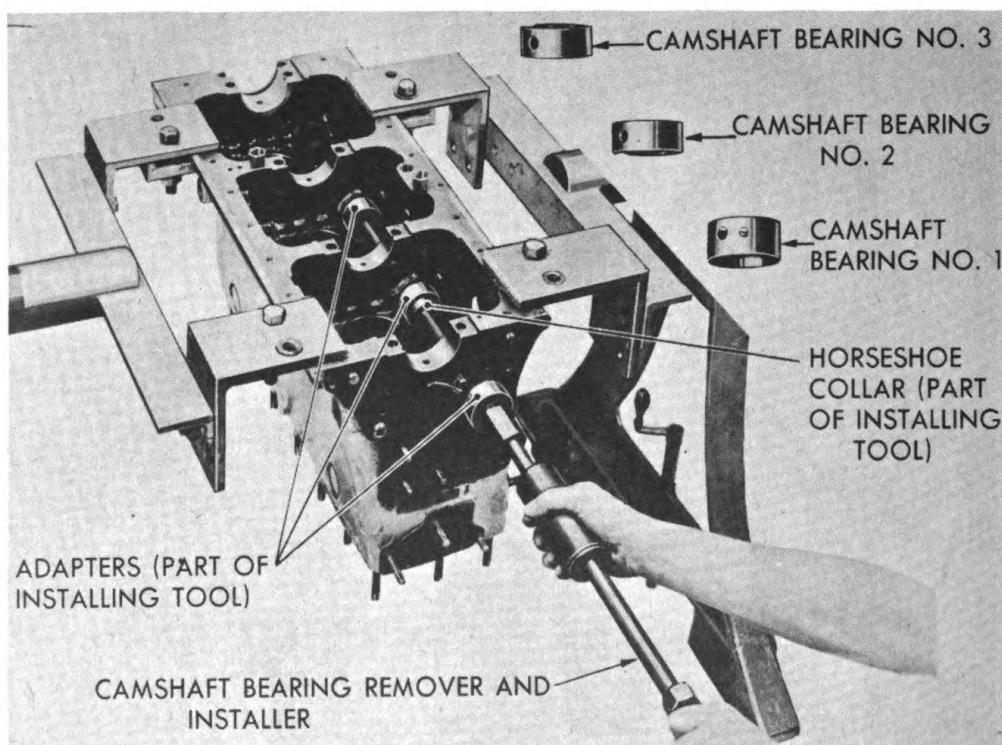

Figure 106—Camshaft Bearing Installation
- b. **Install Camshaft Bearings**—(Figure 106.) The rear ends of the camshaft bearings are chamfered to facilitate installation. An oil hole is machined in each bearing which must line up with an oil hole in the block. The front bearing has a second oil hole which must line up with the hole which supplies oil to the timing chain. Install the correct size adapter of camshaft bearing tool (figure 106), in each of the two intermediate bores. Install the correct adapter in the front bearing and start the front bearing in its bore. Insert the installer shaft through all three adapters and install a horseshoe collar forward of the front adapter. With the sliding hammer of the tool, drive the front bearing into place (figure 106), being sure the oil holes are in alignment. Remove the installer shaft but leave the front and rear adapters in the bores to guide the shaft when installing number two bearing. Place the adapter in number two bearing and start the bearing in its bore. Install the horseshoe collar forward of that bearing and drive the bearing into place. Remove the installer shaft and number three adapter. Place number three bearing in the adapter and drive it into place with the procedure used on the other bearings. The bearings are manufactured to such close limits that no fitting or burnishing is required.